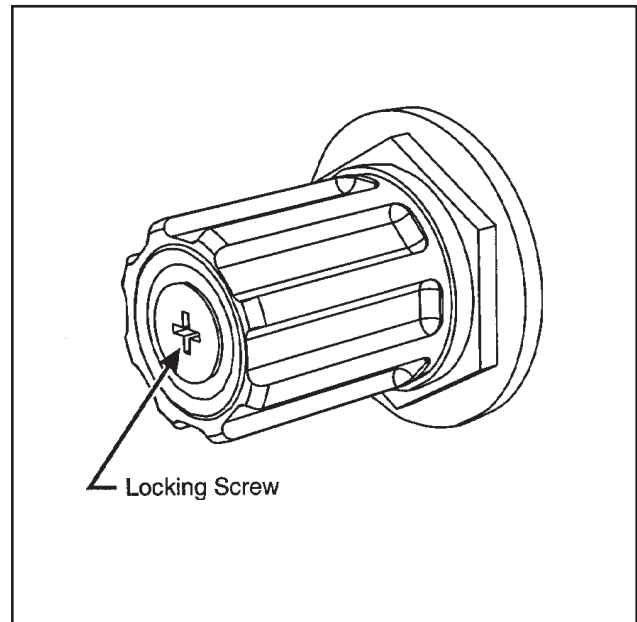

Figure 3-4 – Air Regulator, Drive Belts
⑥ **Centering Switch, Box Drive Belts** - This pneumatic switch controls the closing (centering) of the drive belts. When switch is activated by a box passing under it, the drive belts close and center the box.
⑦ **Air Pressure Regulator, Box Drive Belt Centering – Figure 3-4** - This regulator is used to adjust drive belt centering pressure. The factory set point is 5 turns clockwise. If more pressure is needed to center box, turn knob clockwise to desired pressure. If box is being crushed, turn knob counterclockwise to relieve pressure. Regulator is locked by tightening screw.
⑧ **Air Pressure Gauge, Upper Taping Head Frame** - This gauge, used in conjunction with the upper frame air regulator, provides operator with a reference pressure setting for various size/weight boxes.